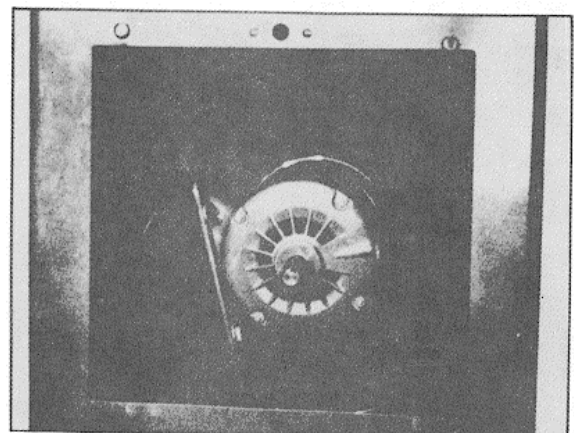

Fig 7
4. Assemble the motor to the motor mounting plate, as shown in Fig. 7, using the four carriage bolts, flat washers and square nuts.